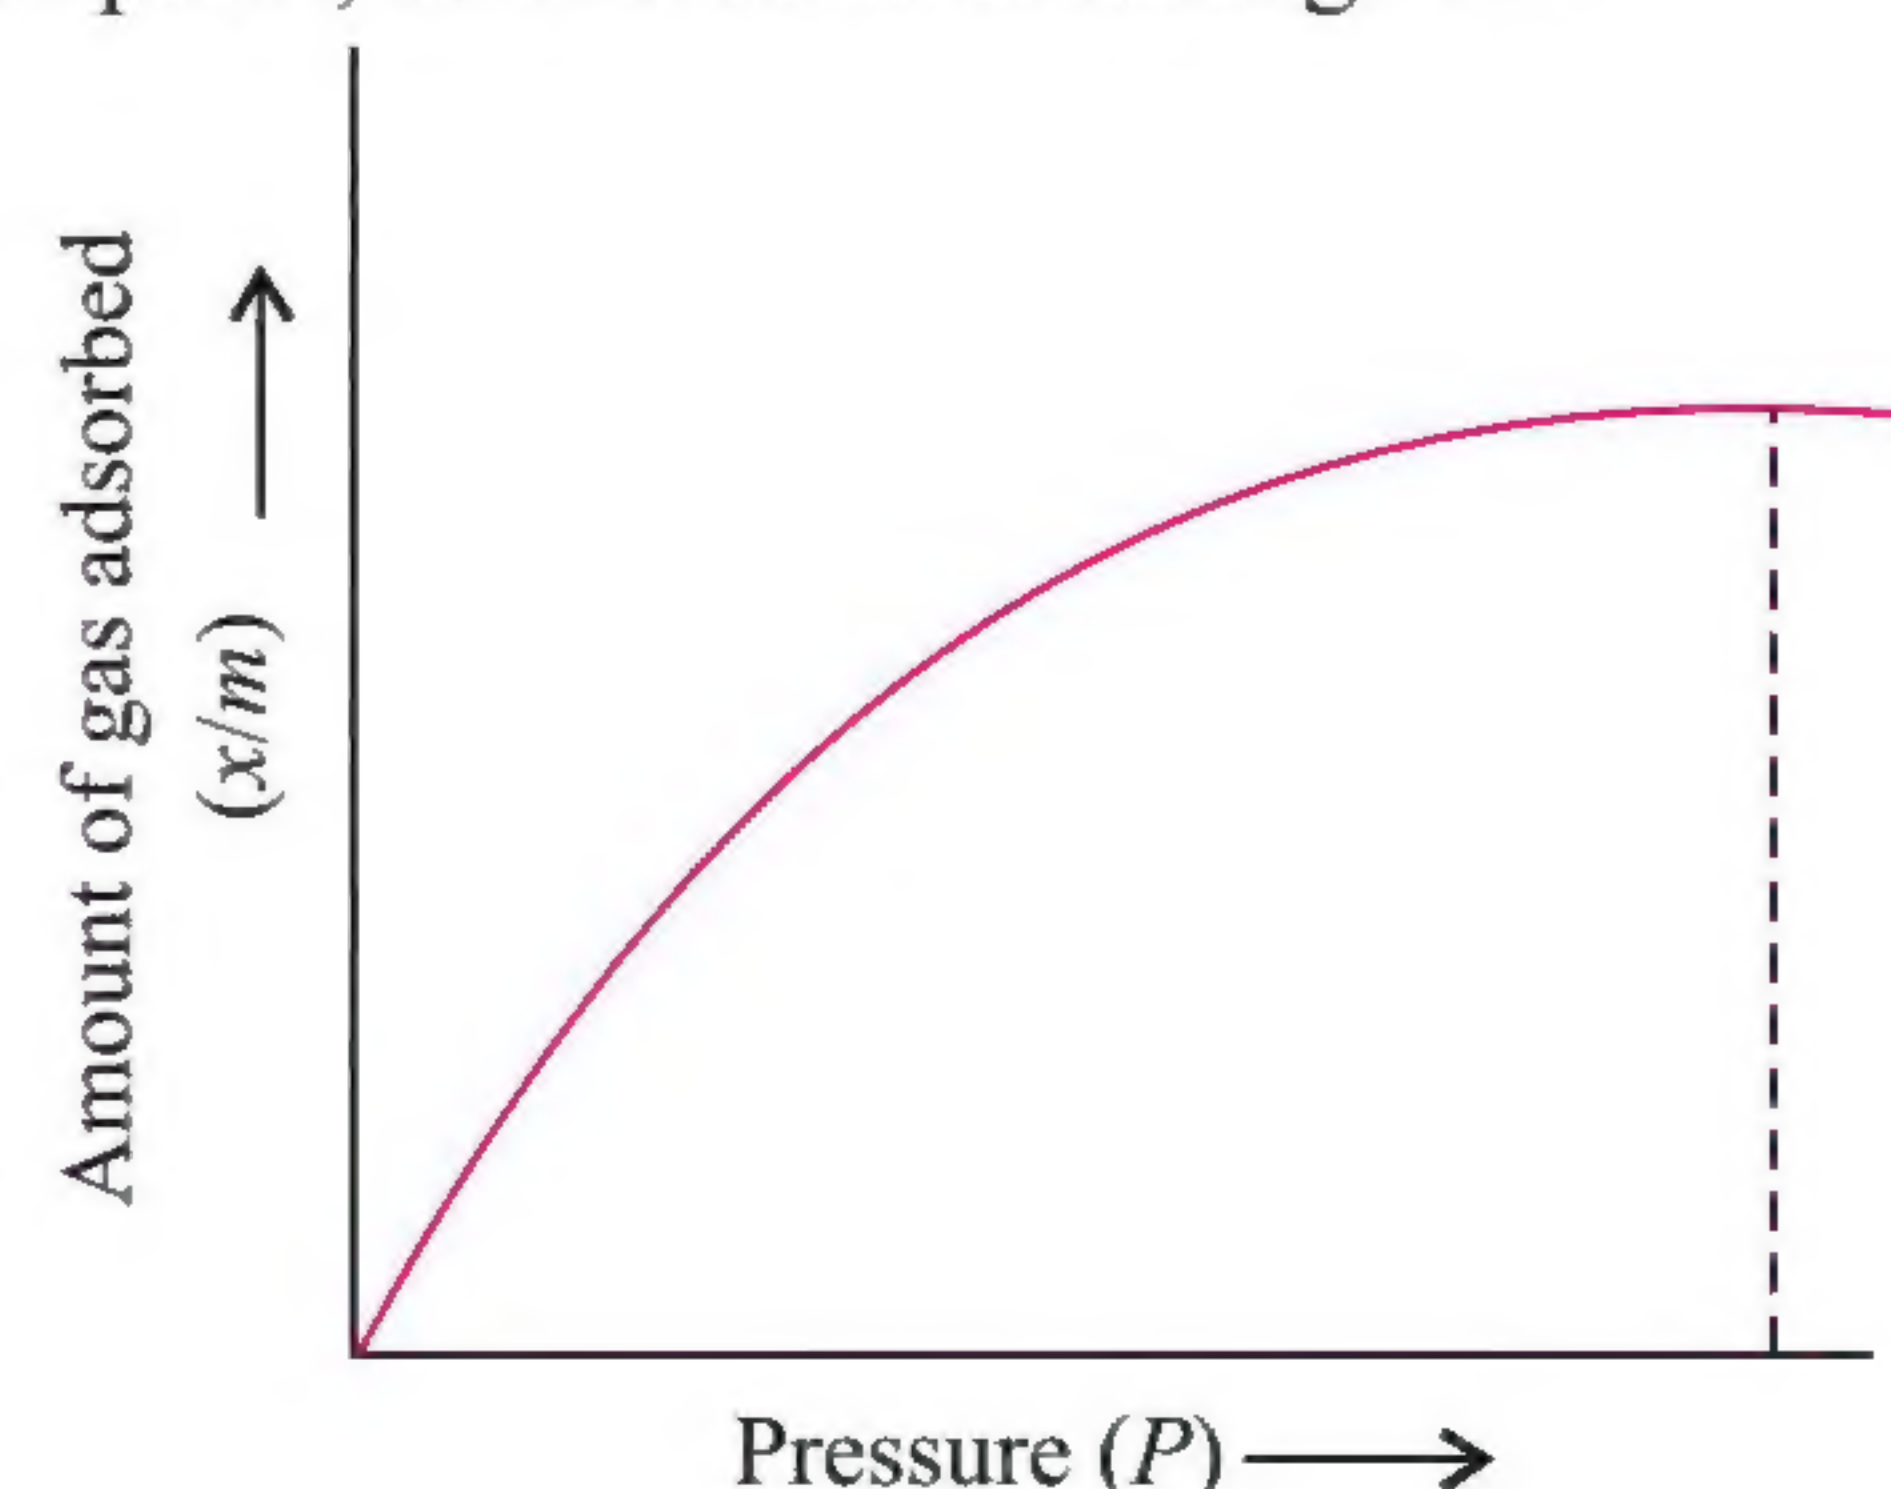

Fig. 5.9
**The Langmuir isotherm, in the form of Eq. (i) is generally more successful in interpreting the data than the Freundlich isotherm when a monolayer or a unimolecular adsorbed layer is formed.** A plot of  $x/m$  versus  $P$  is shown in Fig. 5.9.
At low pressures, according to Eq. (iii),  $x/m$  increases linearly with  $P$ . At high pressure, according to Eq. (ii),  $x/m$  becomes constant, i.e., the surface is fully covered and change in pressure has no effect and no further adsorption takes place, as is evident from Fig. 5.9.